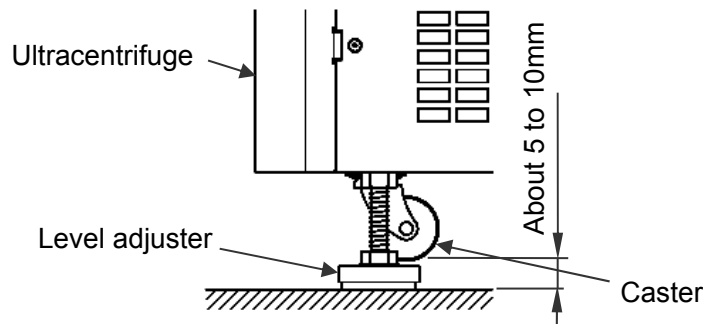

Fig. 5-2 Leveling adjustment
(1) While referring to Fig. 5-2, turn the level adjusters with a spanner until the casters are to 5 to 10 mm off the floor.